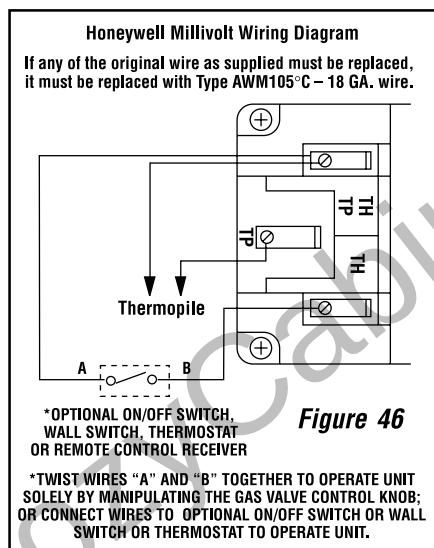

Figure 46
A. SIT and Honeywell Millivolt Wiring (See Figure 46) –
4. Alternatively, the appliance may be operated without the use of the controls indicated in step 1, solely by manipulating the gas valve control knob. In order to use this method, twist the free ends of the two conductor wire (located inside the bottom compartment of the unit) together as shown in **Figure 46**.